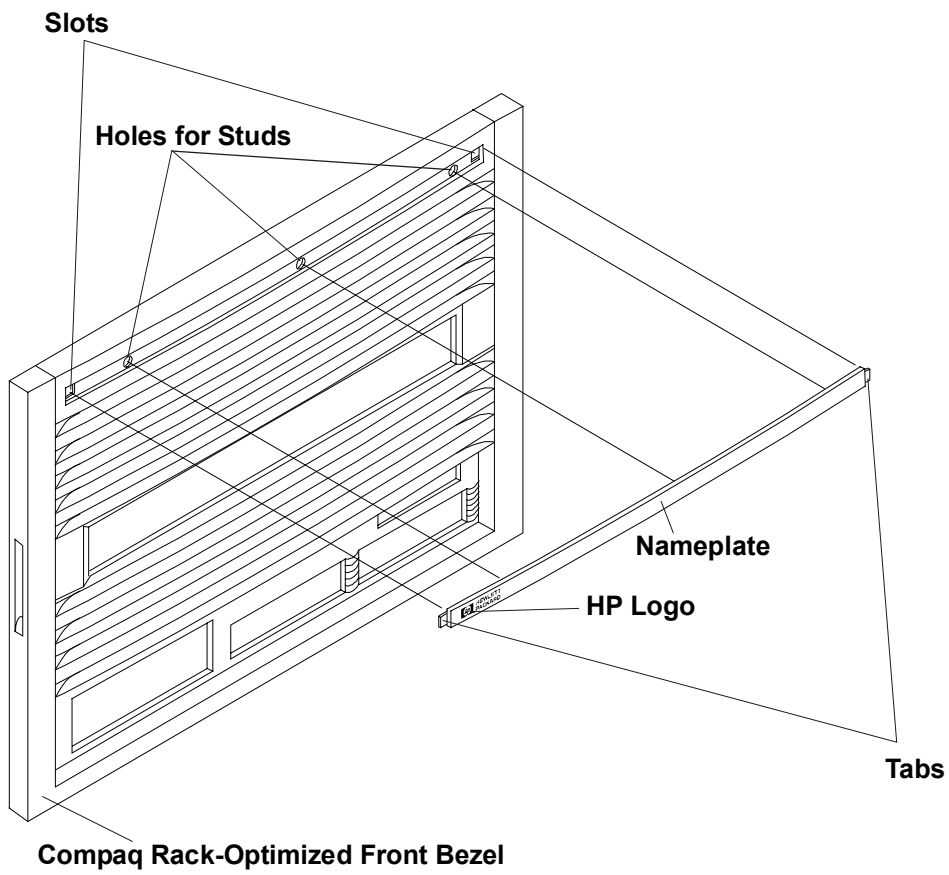

Figure 4-7. Attaching Nameplate to Compaq Rack-Optimized Front Bezel
1. Orient the Compaq rack-optimized front bezel as shown in Figure 4-7.
3. Orient the nameplate with the HP logo on the left, as shown in Figure 4-7.
4. Insert the tab on the left end of the nameplate into the corresponding slot in the front bezel indicated in Figure 4-7. Bow the nameplate slightly, and insert the tab on the right end into the slot on the front bezel.